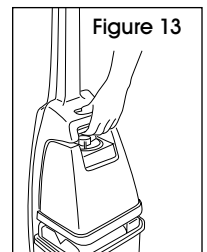

Figure 13
2. The cleaner may also be lifted by placing a hand under the upper clean solution tank handle as shown. (See Figure 13)